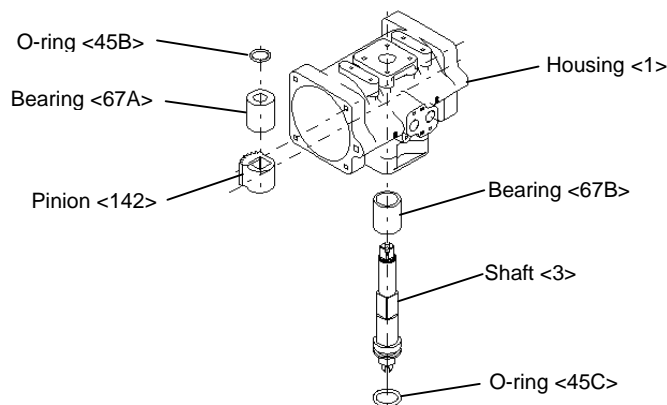

Fig.12
- (10) Remove the shaft slowly through the bottom of the housing, holding a pinion gear and a bearing by hand. Another bearing is removed together with the shaft (Fig.12) to complete disassembly of the actuator.